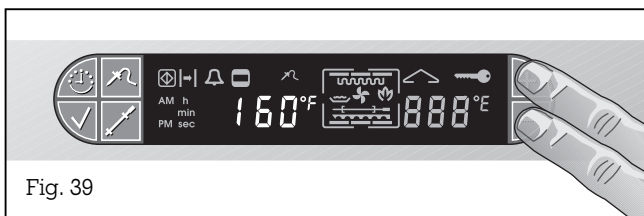

Fig. 39
- You can enter a value between 1 °C / 33 °F and 99 °C / 210 °F (see table) by pressing the + and - keys (Fig. 39).